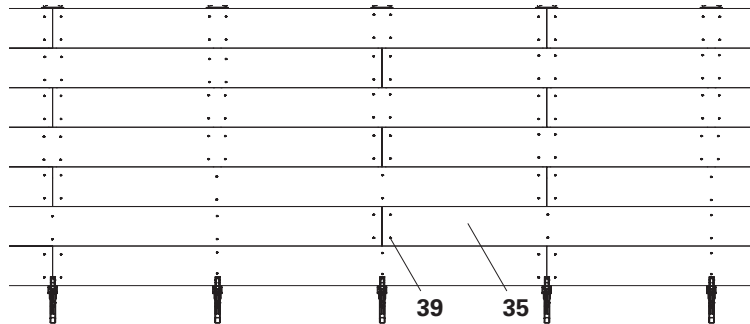
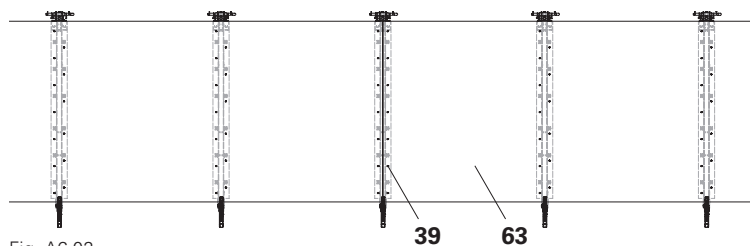

Fig. A6.01
Fig. A6.02
- Planking (35) spans a minimum of two bays, with offset joints.
- Fix the planking on each platform beam with Spax screws TX 30 6 x 80 (39). (Fig. A6.01 + Fig. A6.02)